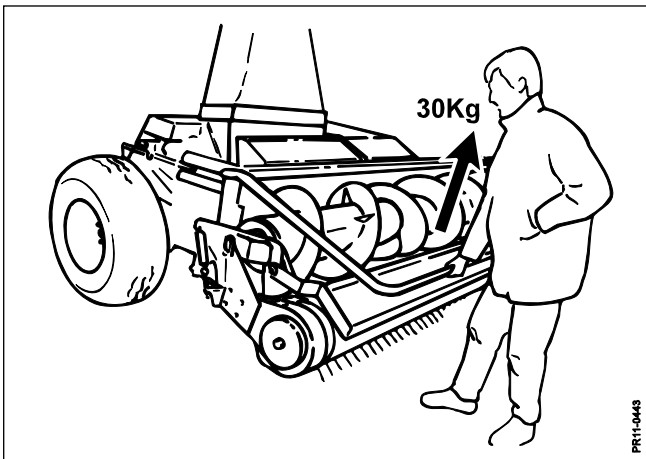

Fig. 3-9
- Fig. 3-9** Check this by standing in front of the pick-up and pull the hoop upwards and estimate the ground pressure.